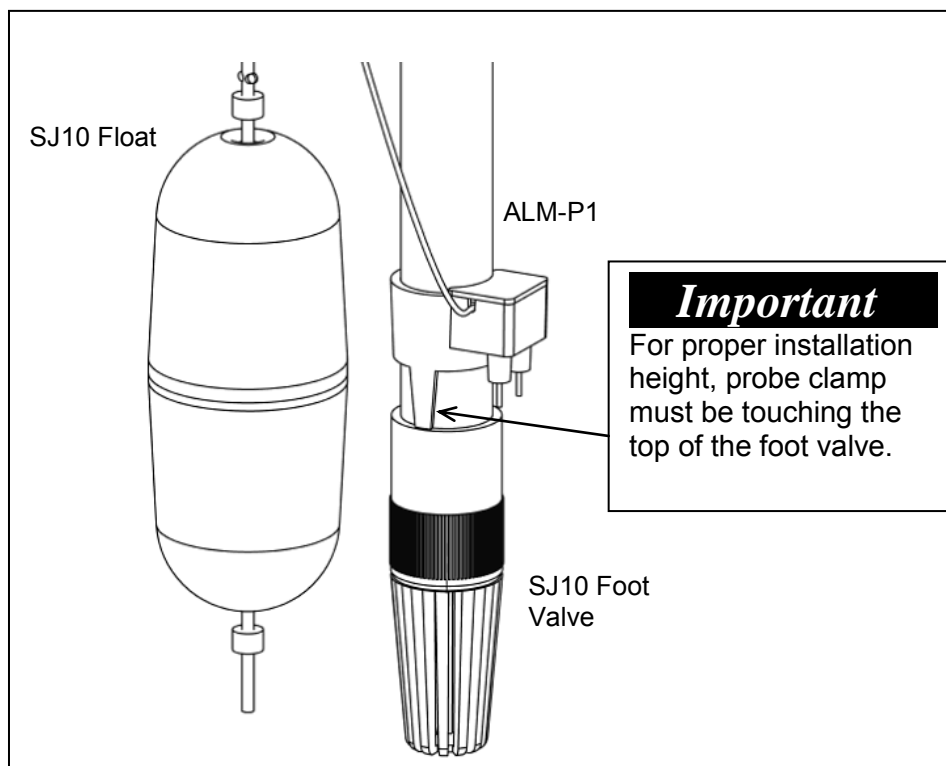

Figure 3
1. The correct position for the water sensor clamp is already determined on the SJ10, to trigger just before the pump activates. The clamp should be placed on the intake pipe of the SJ10 pump, with the bottom of the clamp touching the top of the pump’s foot valve. If the clamp is not positioned directly against the foot valve, the alarm may not function properly. The clamp should be rotated so that the probes face away from the SJ10 float. See figure 3.